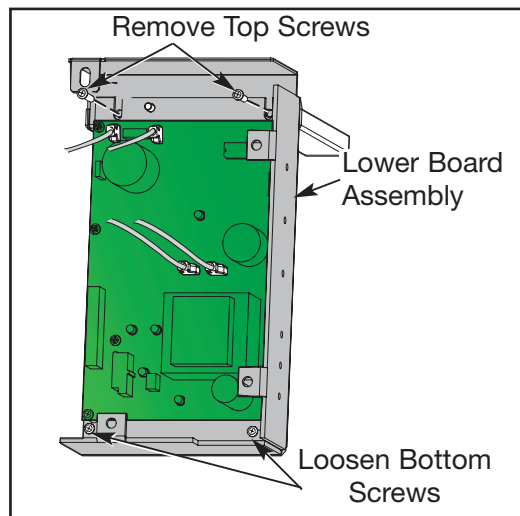

Figure 11
D. Using a Phillips head screwdriver, remove the top two screws from the lower board assembly and loosen the bottom two screws. See Figure 11.